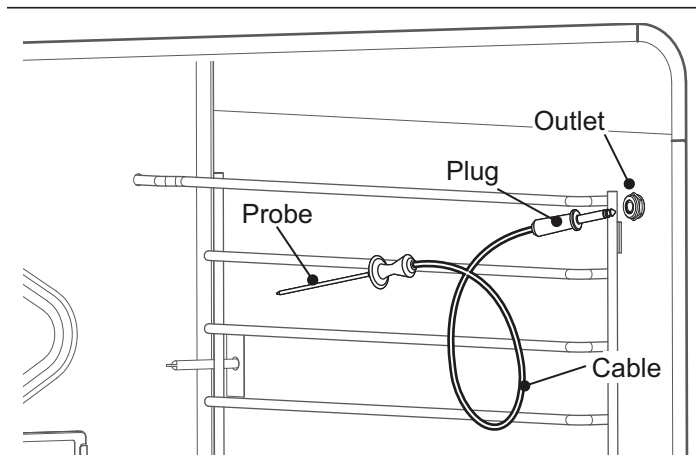

Figure 24: Meat Probe
- In the large oven, or in the small oven on select models, locate the outlet (Figure 24).